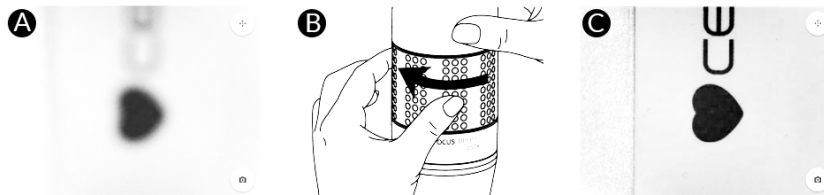

Figure 8: Focusing the HD Camera Toolhead on a test image.
3. Select HD Camera Toolhead under Tool type, and select image capture mode (Figure 8).